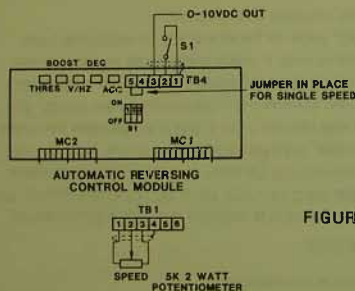

FIGURE 11
In the FHP ParaJust, electronic reversing is made available by substituting the electronic reversing control module for the standard control module. The reversing control module will allow a motor to reverse direction at the command of an external switch, limit switch, or relay contact. It is the equivalent of changing two motor leads. The reversing control module has a five (5) connection terminal block labeled TB4 (refer to Figure 11).
7.3.2.1 SINGLE SPEED. Connect a forward/reverse switch or contact across terminals 1 and 2 of TB4 on the control module (reference Figure 11). Connect the 5000 ohm speed potentiometer to terminals 1, 2 and 3 of TB1 as described in paragraph 4.4.1. BE SURE THAT THE JUMPER IS IN PLACE BETWEEN TERMINALS 4 AND 5 OF TB4 ON THE CONTROL MODULE.